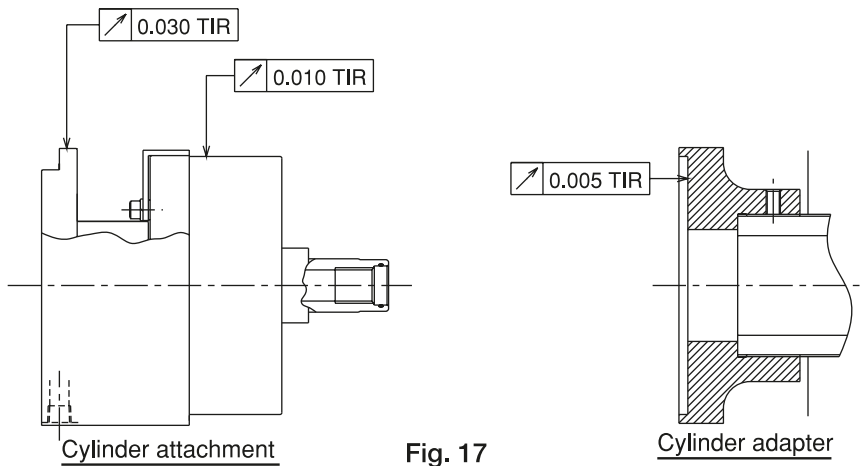

Fig. 17
- As for the run-out when attaching the cylinder, attach the cylinder while keeping the vertical run-out of the sleeve cover rear end and the cylinder periphery at the standard value specified in the Fig.17 or lower when rotation stop of the sleeve cover is applied and the spindle is rotated.